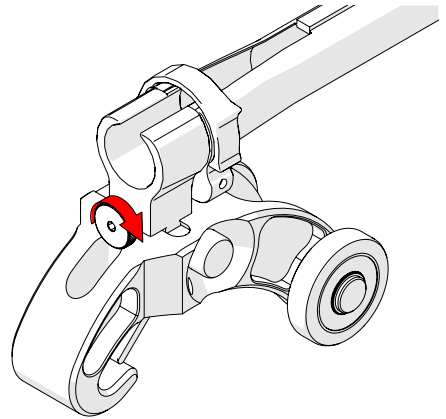

Fig. 59 - Tighten knob
2. Once centred on the Dovetail QuickLink, tighten the cable management's dovetail mount knob (Fig. 59).